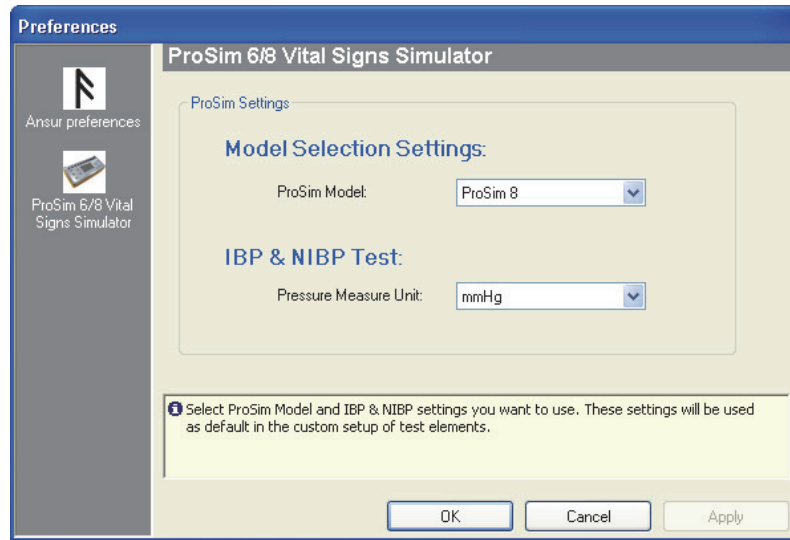

Figure 4-20. ProSim Preferences Window
2. Click the ProSim 6/8 Vital Signs Simulator icon in the left pane of the window to show the window in Figure 4-20.